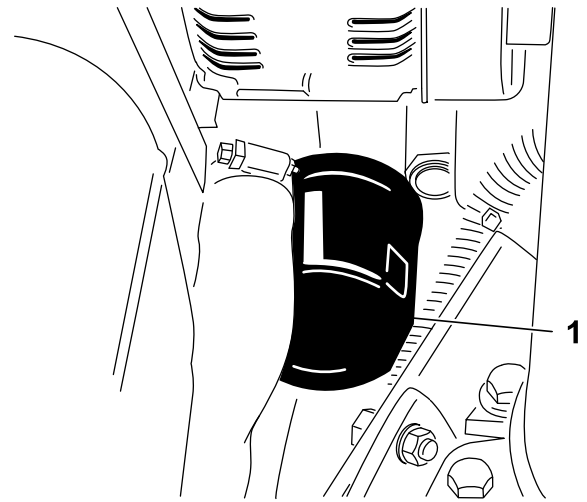

Figure 36
3. Remove the oil filter (Figure 36).